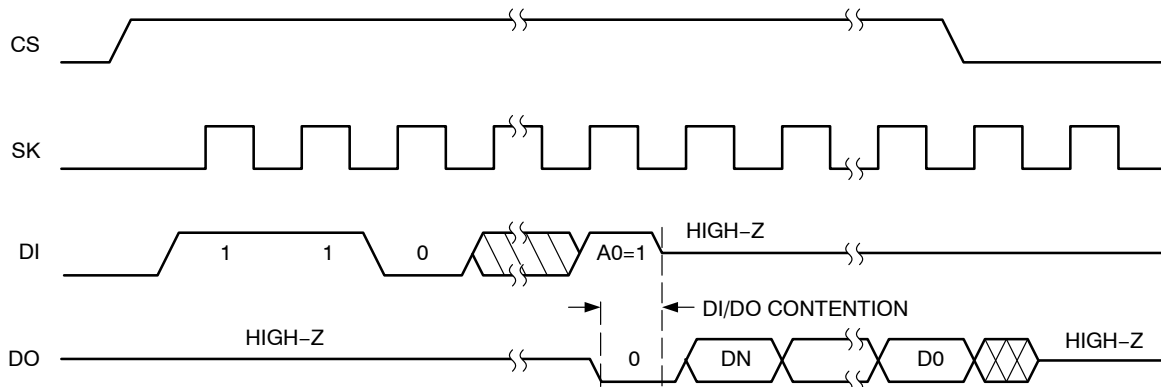
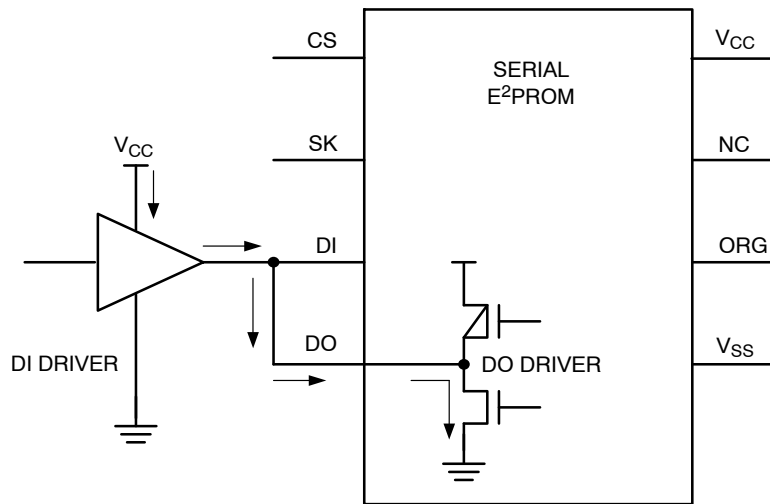

Figure 1. DI/DO Contention Timing During Read Cycle
Figure 2. Current Path
Data Output Pin (DO) remains in high impedance state while most of the READ instruction (i.e. start bit, opcode and address) is being input and offers no contention to the Data Input Pin (DI) driver in a shared DI/DO configuration (Figure 1). However, typically 50 ns after the rising edge of the serial clock shifts in the least significant bit of the address stream (A0), DO outputs the dummy '0' to flag the beginning of the output data stream. If A0 is a '1' and the DI driver has not been disabled by the time the '0' dummy bit becomes valid, a low impedance path between the system power supply and ground is created through the DI driver pullup and DO pulldown device (Figure 2).